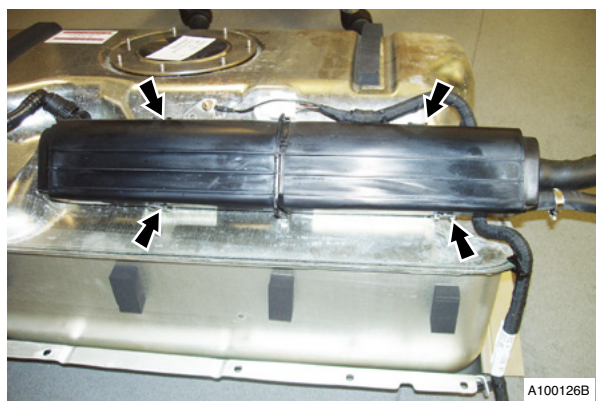

Fig. 12
23. Remove carbon canister from fuel tank (clips 4) (see Fig. 12)